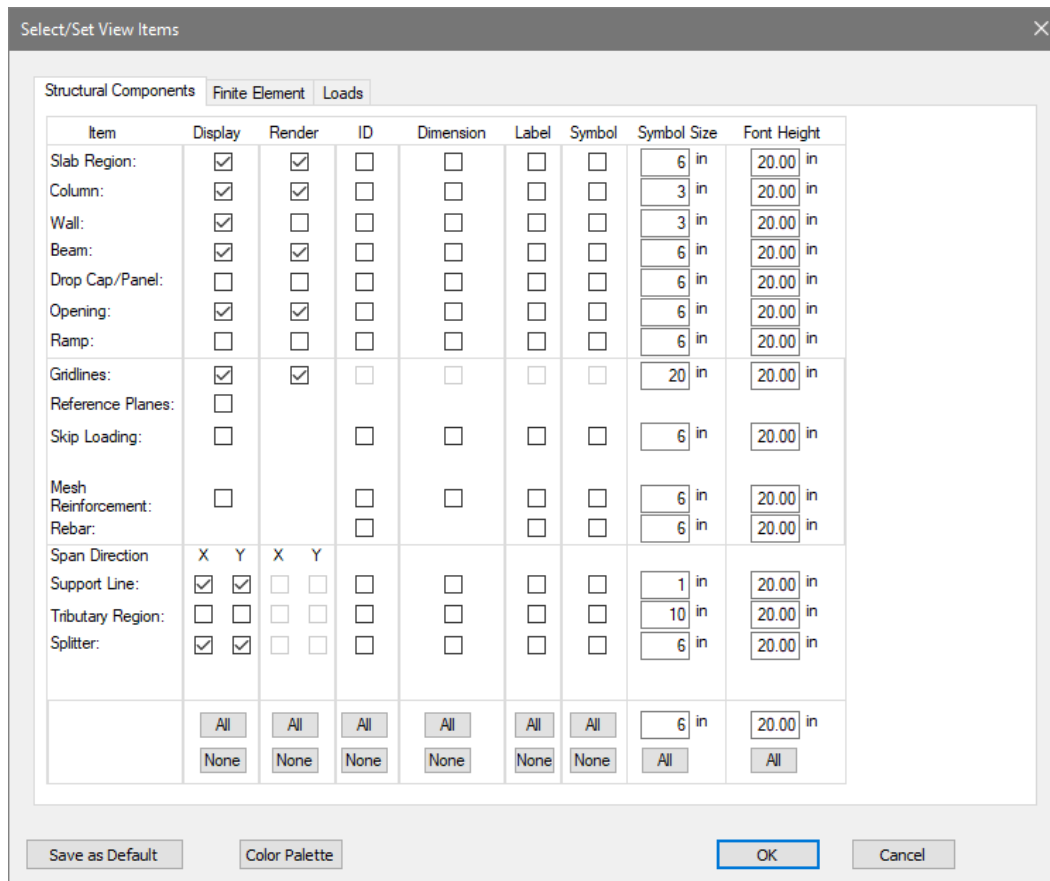

Figure 9-126
- Make the selections on the Geometry tab as shown in **FIGURE 9-126**.